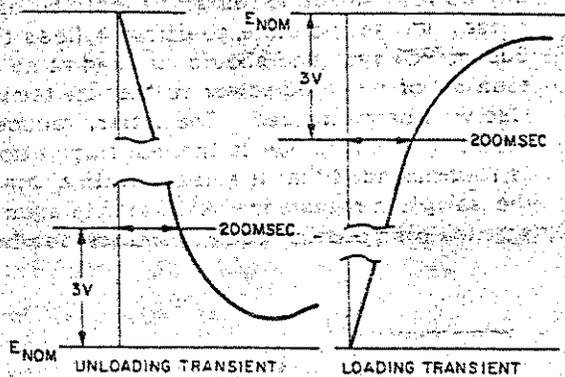

Figure 5-7. Transient Recovery Time, Waveforms
h. Starting from the major graticule division representative of time zero, count to the right 200 msec and vertically 3V. Recovery should be within these tolerances as illustrated in Figure 5-7. If recovery is not correct, adjust R13 as described in Paragraph 5-73.